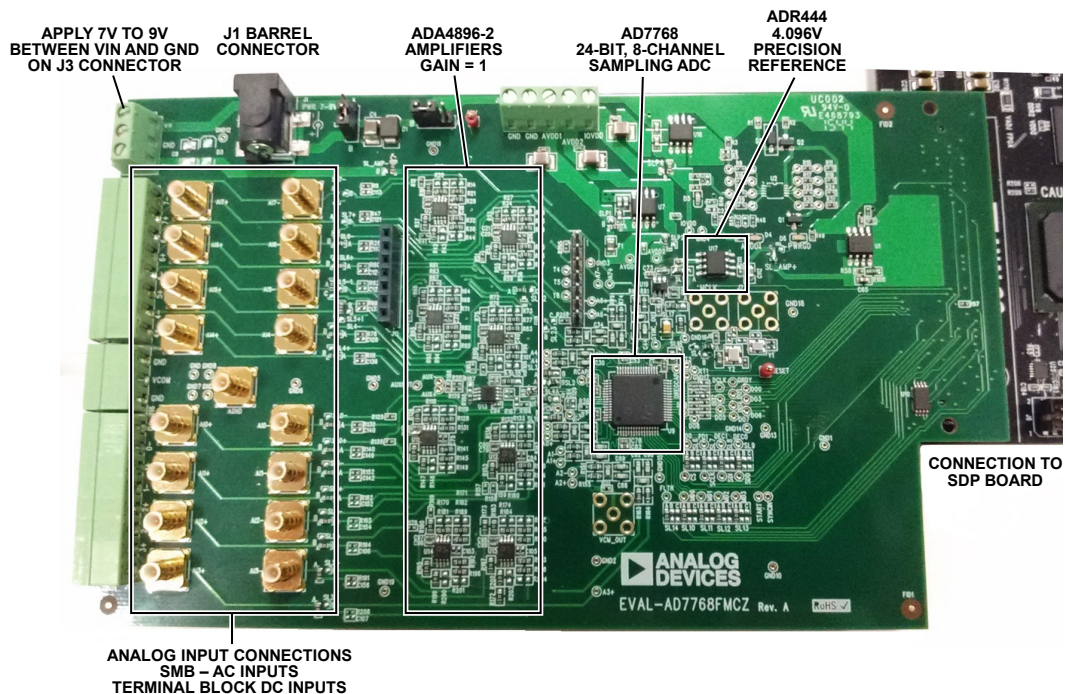

Figure 1. EVAL-AD7768FMCZ Evaluation Board
2. Connect the EVAL-SDP-CH1Z board to the EVAL-AD7768FMCZ board (unpowered). Figure 1 illustrates the connection: J4 of the EVAL-SDP-CH1Z board adapts to the receiving socket on the EVAL-AD7768FMCZ printed circuit board (PCB).
As shown in Figure 1, the $A_{IN}0\pm$ to $A_{IN}7\pm$ analog inputs are accessible through either the SMBs or the terminal blocks.